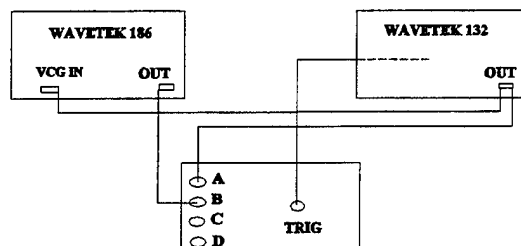

Figure 4
a) Setup the configuration in Figure 4.